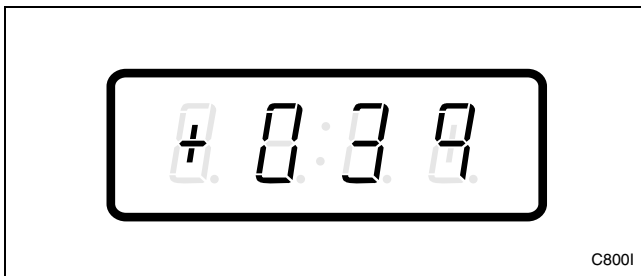

Figure 148
3. Press the DELICATES (+) or the COLD (-) keypad to scroll through the programmable options until “+039” appears in the VFD. Refer to *Figure 148*.